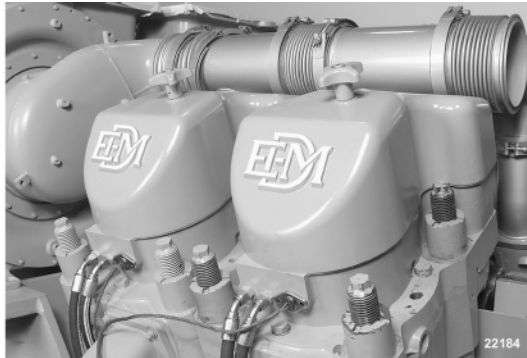

Figure 7.1 *Rocker Box Cover.*
2. Remove the rocker box cover from the cylinder to be worked on. (*figure 7.1*)